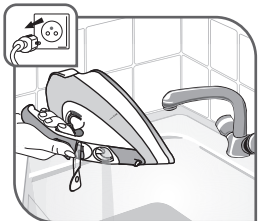

Fig. 17
- Disconnect the base and empty the tank – fig.17.